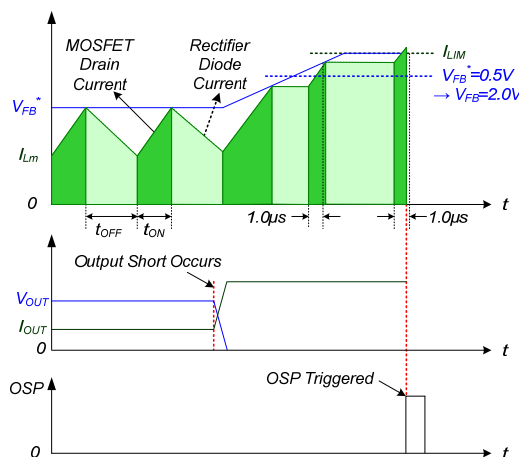

Figure 22. Output-Short Protection
4.3. Output-Short Protection (OSP): If the output is shorted, steep current with extremely high di/dt can flow through the SenseFET during the minimum turn-on time. Such a steep current brings high-voltage stress on the drain of the SenseFET when turned off. To protect the device from this abnormal condition, OSP is included. It is comprised of detecting V_{FB} and SenseFET turn-on time. When the V_{FB} is higher than 2.0V and the SenseFET turn-on time is lower than 1.0 μ s, the FSL176MRT recognizes this condition as an abnormal error and shuts down PWM switching until V_{CC} reaches V_{START} again. An abnormal condition output short is shown in Figure 22.